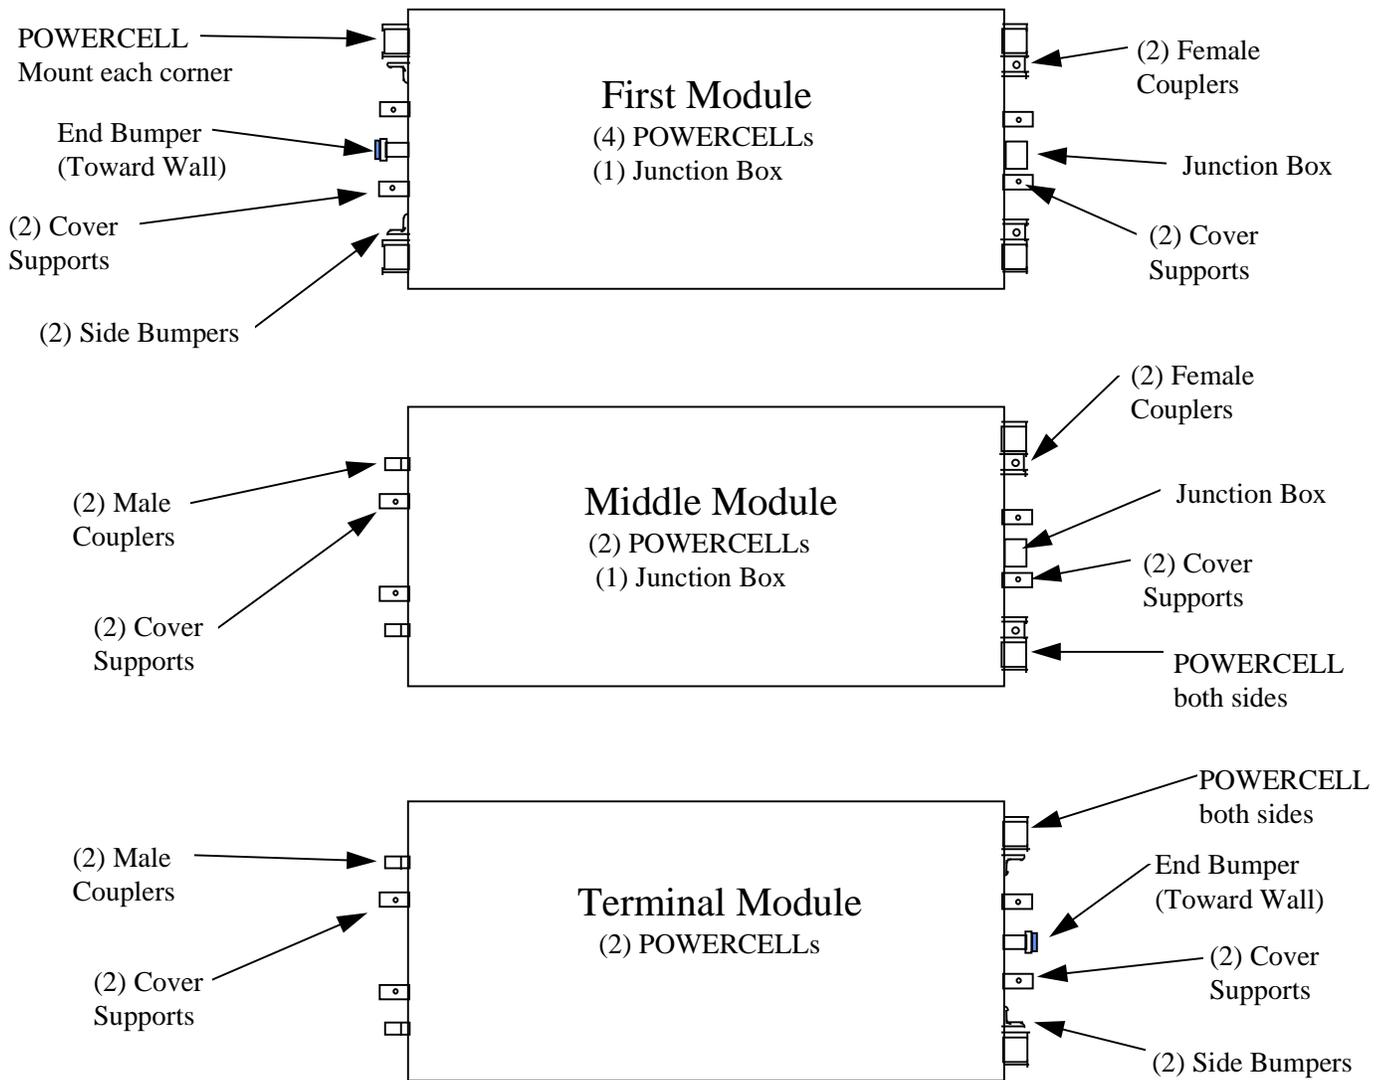

Figure 3-2: Module Type
(Refer to Figure 3.2 for module illustrations.) Modules are to be separated by 4 X 4 blocking.
- The first module to be placed in location is the module which requires four DigiTOL POWERCELLS (refer to Figure 3-2). The end of the First Module which has the end bumper and side bumper angles goes toward the approach wall. Verify that end bumper assembly and side bumper bolts have been installed prior to placing this module. Place the first module reasonably square with the end wall and spaced away from the end wall per assembly drawing. Use care when placing the module on the location tools (refer to Figure 5-1).